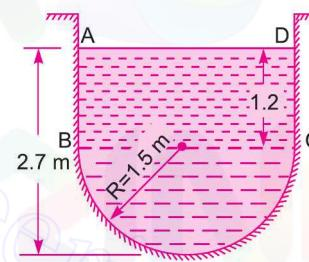

Fig. 16.5
**Problem 16.6** Find the discharge of water through the channel shown in Fig. 16.5. Take the value of Chezy's constant = 60 and slope of the bed as 1 in 2000.
From Fig. 16.5, Area,